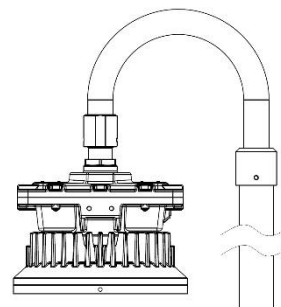

Figure 4
- ☞ The mounting types are for the use of Bending electrical tube mounting (Figure 4). Tube mounting thread is NPT 1-1/2".
- ☞ Tighten tube locking set screw to conduit 1.0 N-m. (Figures 4 and 5)